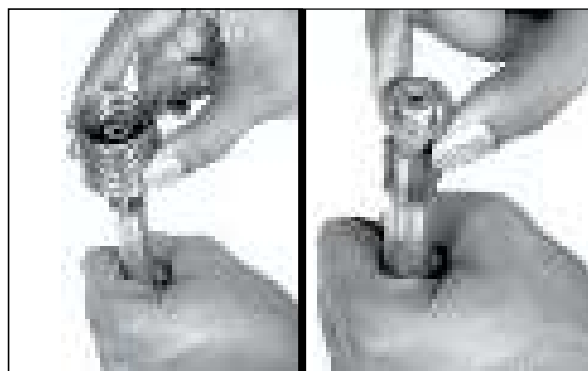

Fig. 3.177
- Remove the spring kick shaft return and shim (16x30x0.5) from shaft kick starter. (Fig. 3.177)